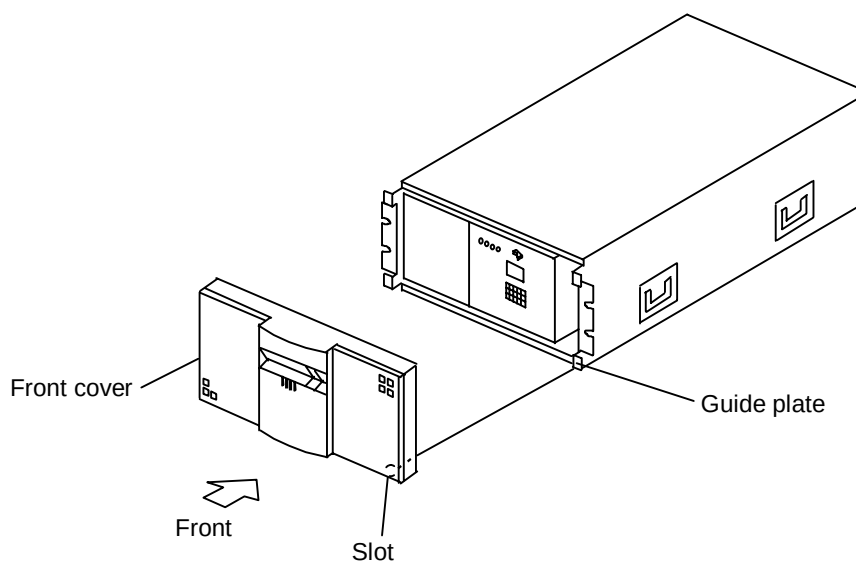

Figure 3.1.1 Attaching/Removing the Front Cover
- (1) Removing the front cover. (See Figure 3.1.1.)
① Hold the grooves at both sides of the front cover and pull it toward you.
- (2) Attaching the front cover. (See Figure 3.1.1.)
① Fit the guide plate of the main body with the slots of the front cover (four places), press the front cover against them.